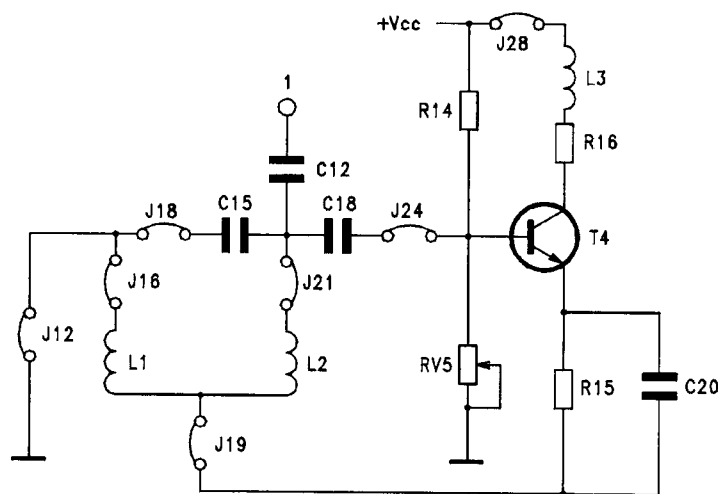

fig. B35.7
- Remove jumpers J13, J22, insert J12, to produce the circuit of figure B35.7.